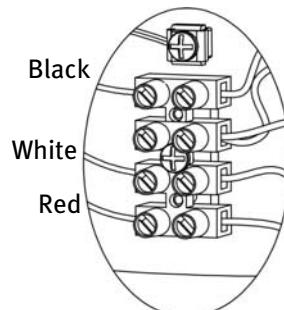

Figure 1
3.2.1) ELV with single-phase motor (figure 1):